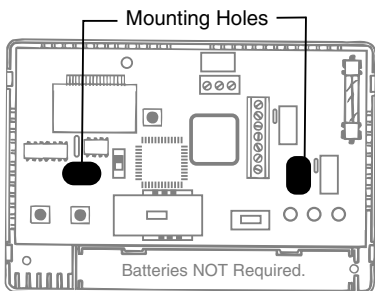

figure 3
6. Mark placement of mounting holes. See Fig. 3.